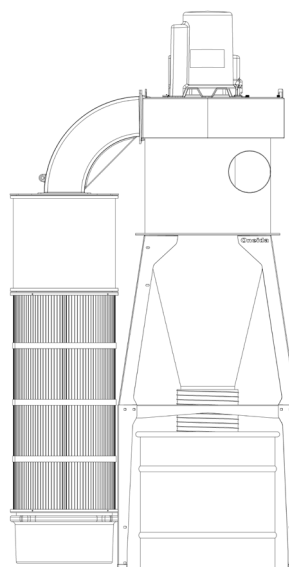

FIG. 3a
- **Stand Instruction Sheet #ZBI000014** [FIG 3a]